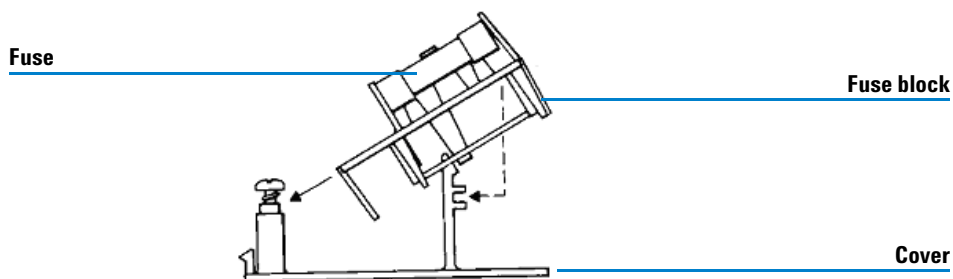

Figure 16 Removing the fuse-block
- 7 Loosen the Phillips head screw on the fuse pedestal two turns. Remove the fuse block by sliding it up and away from the screw and pedestal, as shown in Figure 16.